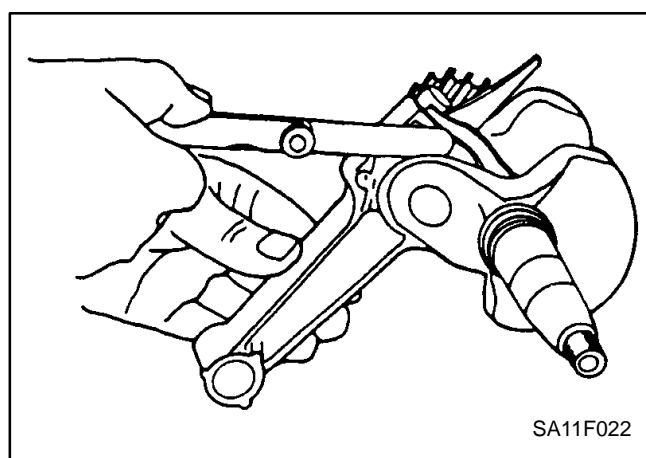

FIGURE 9-23. SIDE CLEARANCE OF CONNECTING ROD ON CRANK PIN
2. Measure the side clearance with a feeler gauge (Figure 9-23).